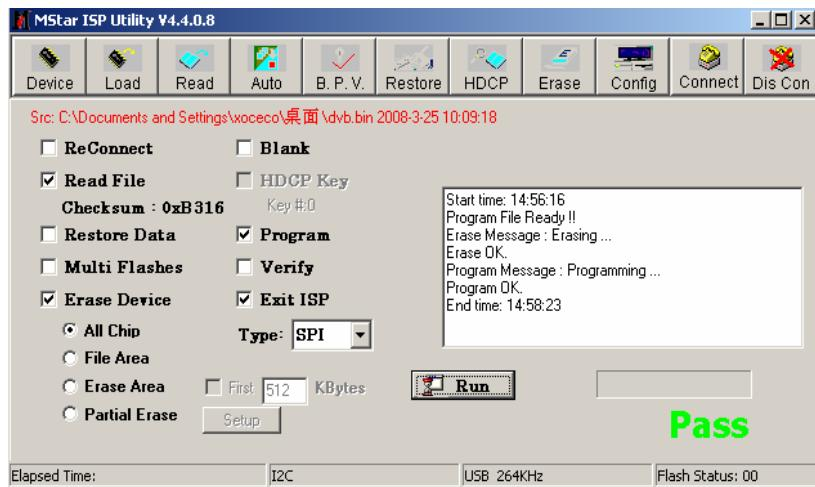

Fig. 6 A prompt “**Pass**” beside the key “**Run**” for successful burning
- 7) A prompt “**Pass**” will be displayed beside the key “**Run**” for successful burning as **Fig. 6**